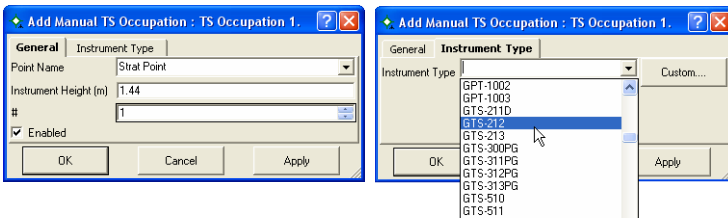

Figure 5-87. Add Manual TS Occupation dialog box
- In the *General* tab of the *Add Manual TS Occupation* dialog box (Figure 5-87):